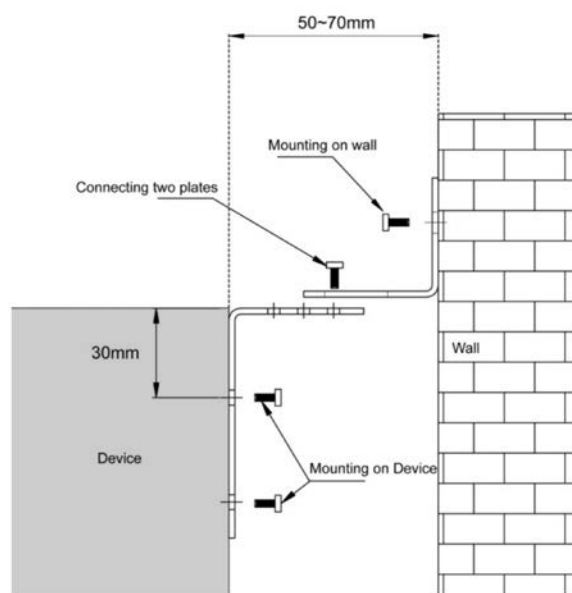

Figure 1. Side view
1. Pull the drawer (1) outward to the max. position, and remove the screws (3) on the drawer (1) and the sliding rail (2) on both sides with a Phillips screwdriver. (See Figure 1)
- ① Metal fixing plate 2pcs ② M5*16 flat head screws 3pcs
③ M6*60 anchor 1pcs ④ ST4*30 flat head self-tapping screws 2pcs
② M5*16 flat head screws
③ M6*60 anchor
④ ST4*30 flat head self-
b. Place the metal fixing plates according to Figure 1, and fix one to the device with M5*16 flat head screws (screw holes are pre-drilled), the other one to the wall with M6*60 anchor. (ST4*30 flat head self-tapping screws can be used on wooden wall, for other type of walls please use M6*60 anchor. Please check with someone professional for the application of screws if necessary.)